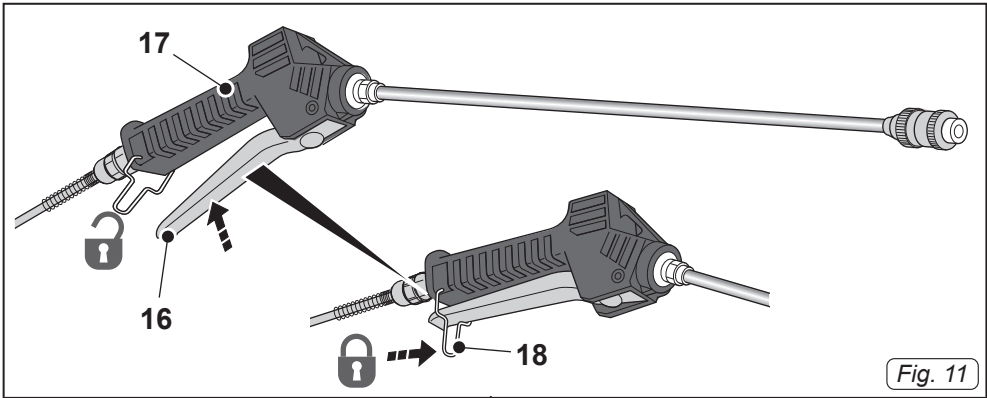

Fig. 11
- Press the lever (16 Fig. 11) of the dispensing nozzle (17 Fig. 11) and begin sanitising the surfaces.